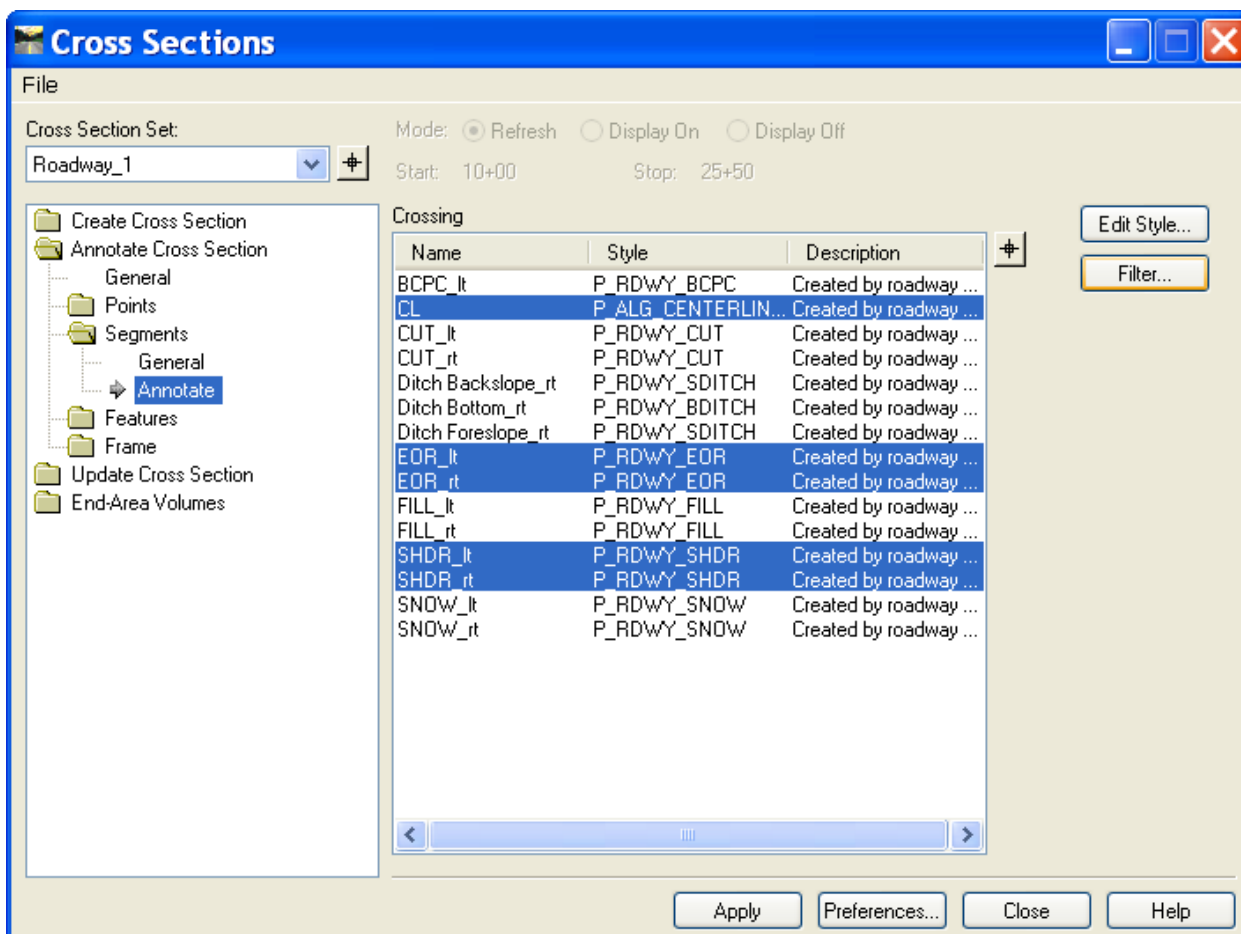

Figure 11-7 InRoads Annotate Cross Section Dialog Box
- A. From the InRoads main menu, select **Evaluation > Cross Section > Cross Sections**. Go to the **Annotate Cross Section** folder. (See Figure 11-7).